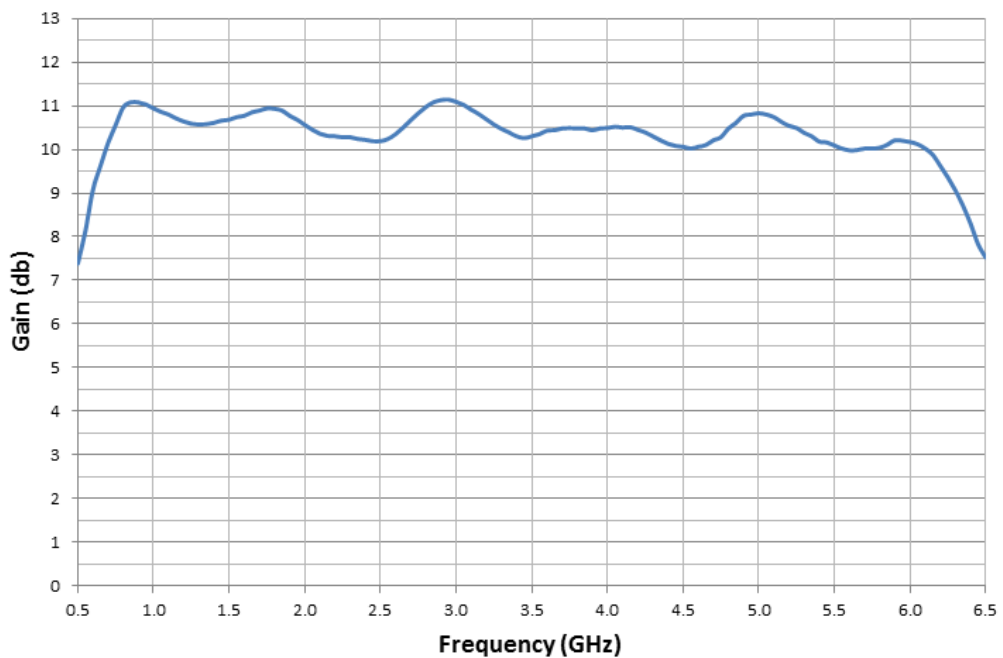

Figure 4-3. Typical A2 Driver Quad Amplifier Response
- If the gain response for the A3 Quad Amp is normal, then check the gain response for the A2 Driver Quad Amp. Typical gain response for the A2 module is shown in Figure 4-3.